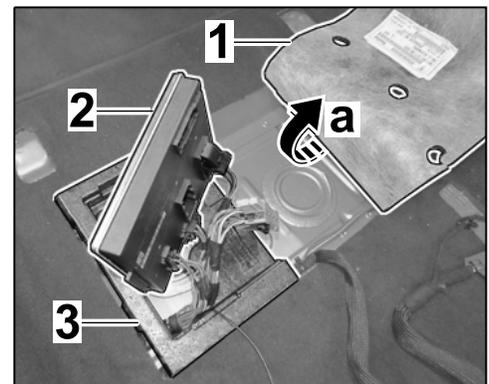

Figure 12
- 2.5.2 Fold up the carpet ⇒ *Figure 12-1-* (⇒ *Figure 12-a-*).